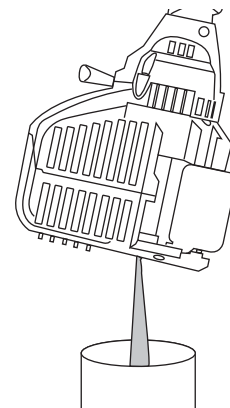

Fig. 21
3. Pour the oil out of the oil fill hole and into a container by tipping the unit to a vertical position (Fig. 21). Allow ample time for complete drainage.